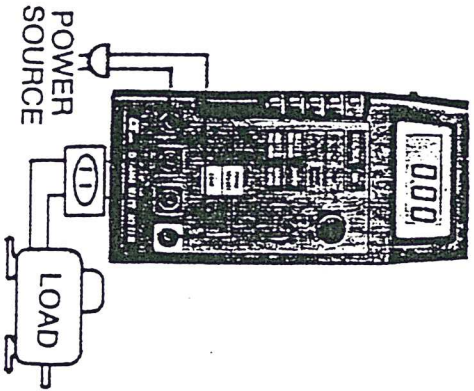

Fig 2
- (1) Slide power switch to "ON" position.
- (2) Adjust the "WATT Zero Adjust Knob" until the display show "0".
- (3) Determine the highest anticipated WATT (2000W, 6000W) on the function scale and press the corresponding pushbutton.
- (4) Make the wire connection and connect the test leads into terminal as the fig. 2
- (1) Engage the FUNCTION pushbutton "WATT II 6000W" on function scale.
- (2) Adjust the "WATT ZERO ADJUST KNOB" until the the display show "0".
- (3) Connect a standard power source and add a load, as Fig. 2 whose value is near full scale (600V, 10A) and is known to within  $\pm 0.5\%$  accuracy
- (4) Calibration adjustment VR 2 is at the right top bottom of the main P.C Board.
- (5) Adjust calibration VR 2 for a display equal to the known above WATT.
- (6) Remove the standard power source and and load.